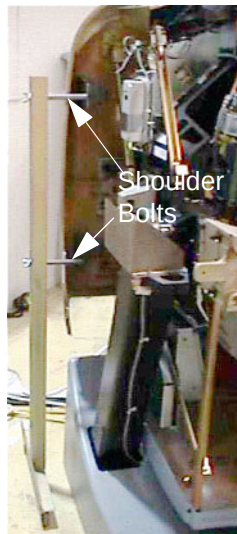

Figure A-25 One side of the Rear cover dolly
- b.) Fit side dolly through the shoulder bolts and secure assembly with two (2) wing nuts. See Figure A-25.